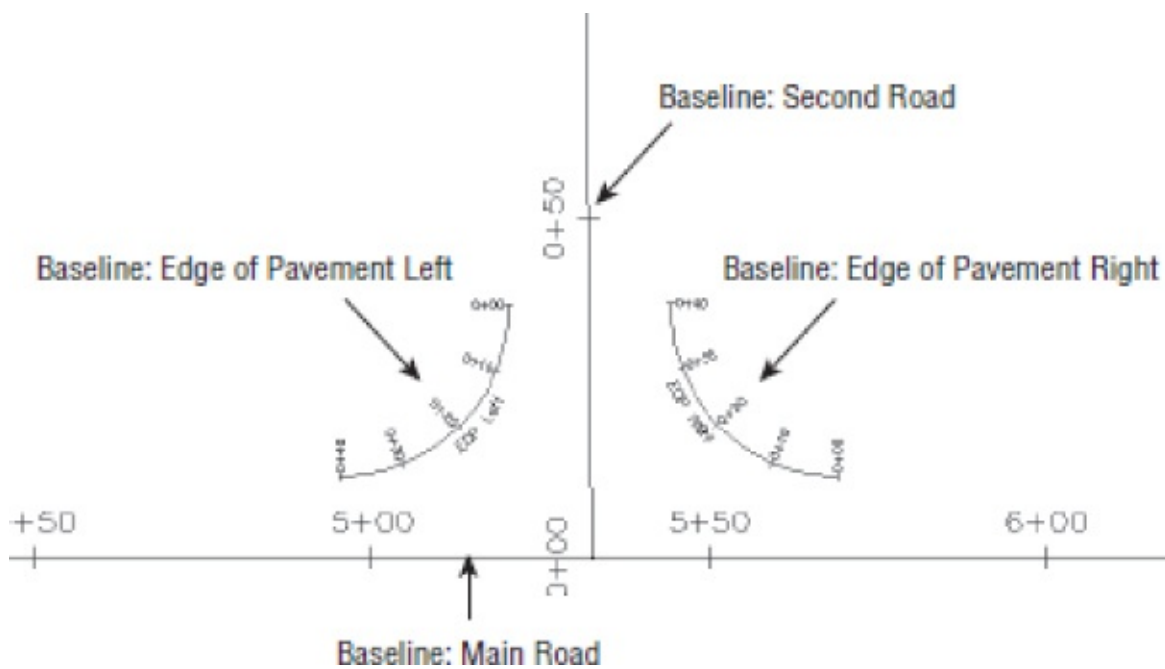

Figure 10.17 Required baselines for modeling a typical intersection
Figure 10.17 shows a sketch of required baselines. As you saw in the previous example, *baselines* are the horizontal and vertical foundations of a corridor. Each baseline consists of an alignment and its corresponding finished ground (FG) profile. You may never have thought of edge of pavement in terms of profiles, but after you build a few intersections, thinking that way will become second nature. The Intersection tool on the Create Design panel of the Home tab will create EOP baselines as curb return alignments for you, but it will rely on your input for curb return radii.